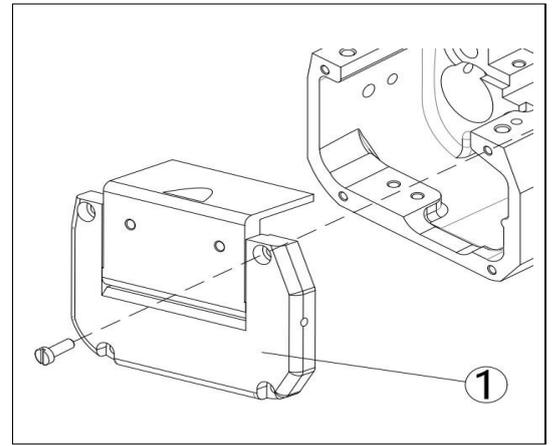

Figure 7-33
- (1) Remove the horizontal cover ①. (Screws at four places) (Figure 7-33)